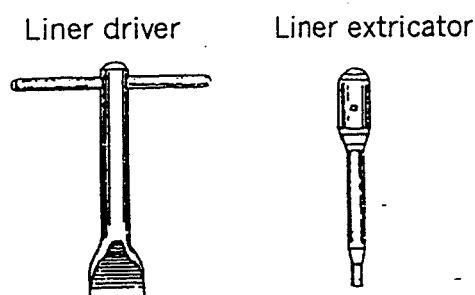
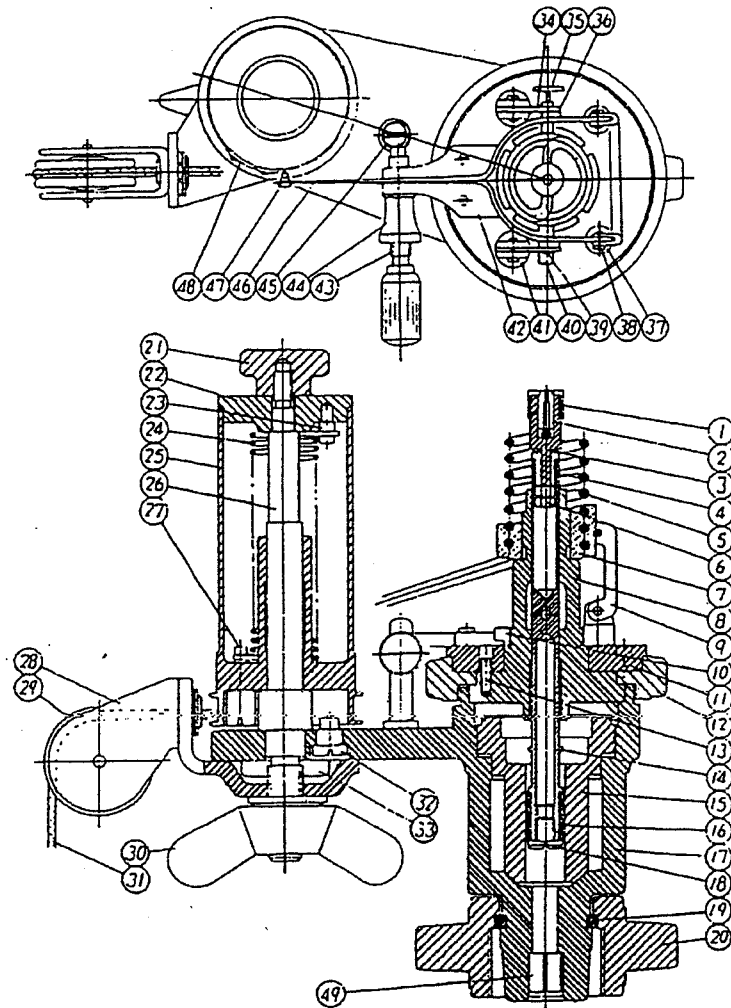

Fig.4
Fig.7 Sectional Views of the Engine Indicators Type "M₂" and "M₃"
Reference is made to Figure 7. The spring is made secure in its screwed Position (#8) by tightening the Cap (#1). When (#12) is loosened and the upper part of the indicator comes off, the piston liner may be removed by turning it counter-clockwise. The liner driver and extricator (illustrations in Figure 4) are recommended for use.
- (2) The indicator is fitted on to the engine side by means of a valve together with the Cap Nut (#20 in Figure 7). Both the cylinder and the indicator fittings should come to each other and direct as to eliminate the dead space, resistance etc. The indicator should be attached very firmly, as to avoid the vibration of the indicator body when the indicator is connected to the working engine by means of the cord.
- (3) In order to arrange the phase of the indicator drum in line with that of the engine piston, the indicator and crosshead of the engine are connected to each other with a cord. But, when the strokes of a drum in the indicator is less in comparison to those of the engine piston, the engine stroke should be regulated to conform with the indicator. This device is termed as the stroke-reducing device.
- (7) When it is ready to record on the diagram, apply oil first to the piston and fix it securely to the main body (#17 in Fig.7) by tightening #12. By neglecting to tighten this part, serious damages have been caused when the upper part of piston blew off as a result of the engine pressure.
The nib point should be pressed against the recording paper so lightly as to leave a mark of thin line on the diagram. In the event of pressure being hard the point of the nib may tear away the recording paper or it may result in an unnecessary difference in record because of friction. Therefore, it is necessary to adjust the Screw Rod (#43 in Fig.7) correctly before the first of recording.